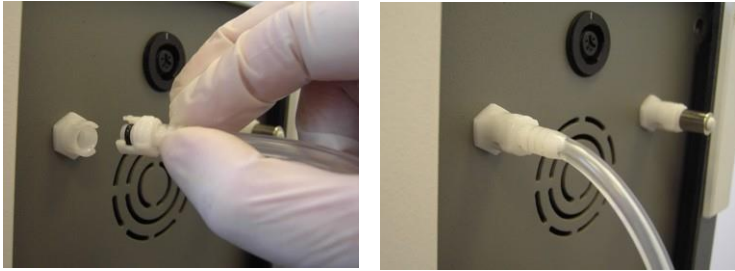

Figure 3-85. Connecting the Luer Lock of the Implantation Tubing to the System's Left Air Outlet Port
For proper system operation, each of the air outlets on the system's rear side must be covered, either by a properly-installed implantation handpiece tubing, or a Luer lock air cap, as shown in Figure 3-85 and Figure 3-86.
9. Connect the Luer lock end of the implantation tube to the system's air outlet port #1, on the left side of the system's rear side, as shown in Figure 3-85.